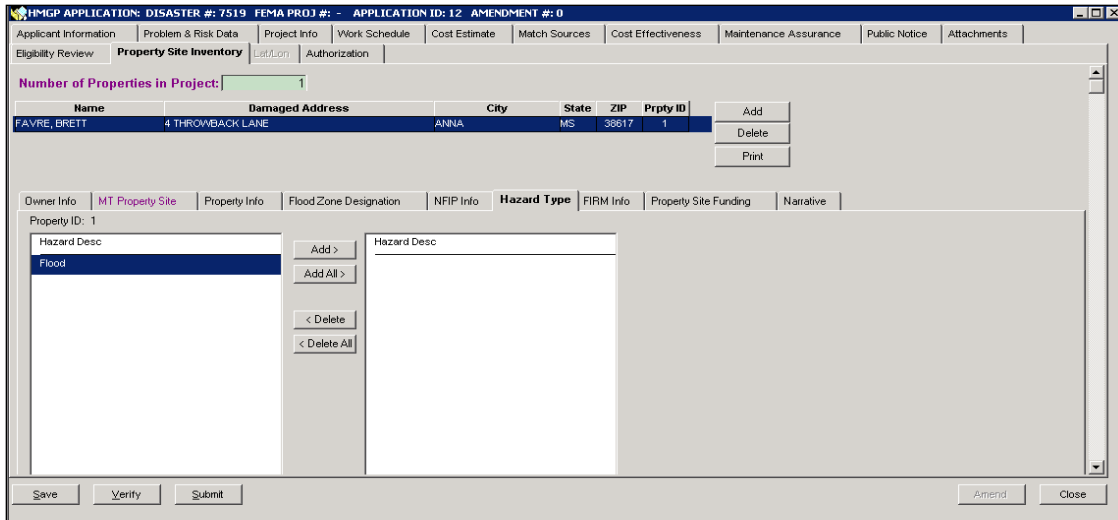

Figure 6-96: Mitigation > Projects > Application Development > Property Site Inventory > Hazard Type Sub-tab
14. Click the **Hazard Type** sub-tab (Figure 6-96). To add Hazard Type information, complete the following steps.